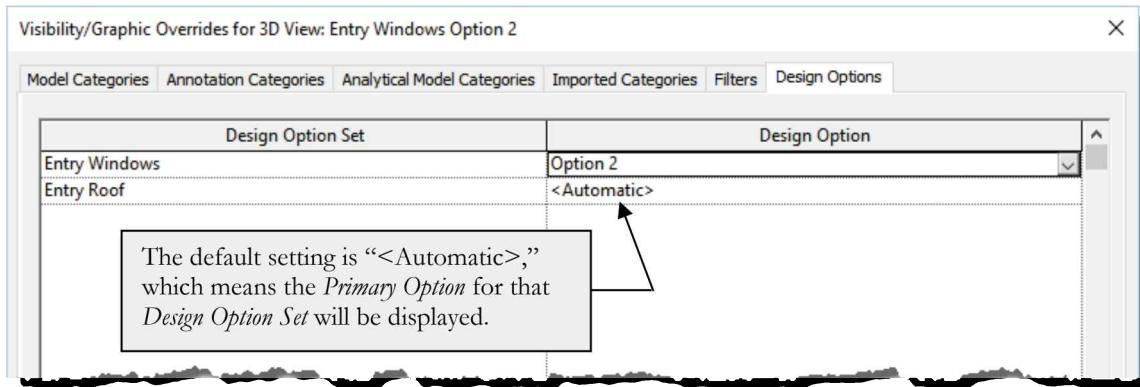

FIGURE 10-5.9 Visibility/Graphic Overrides dialog: modified Entry Windows design option visibility
23. Change the *Design Option* parameter for *Entry Windows* to **Option 2** (Figure 10-5.9).